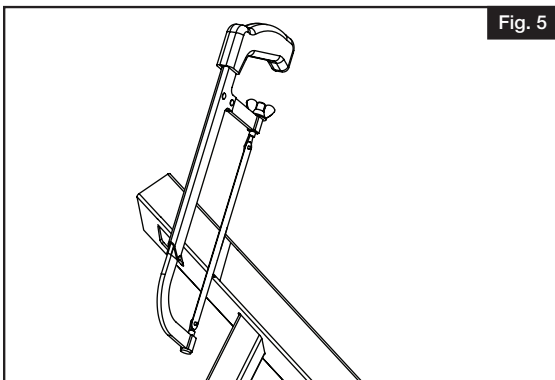

Fig. 5
- Remove clamped stair kit from posts. Cut along all four angled marks on rails (Fig. 5).